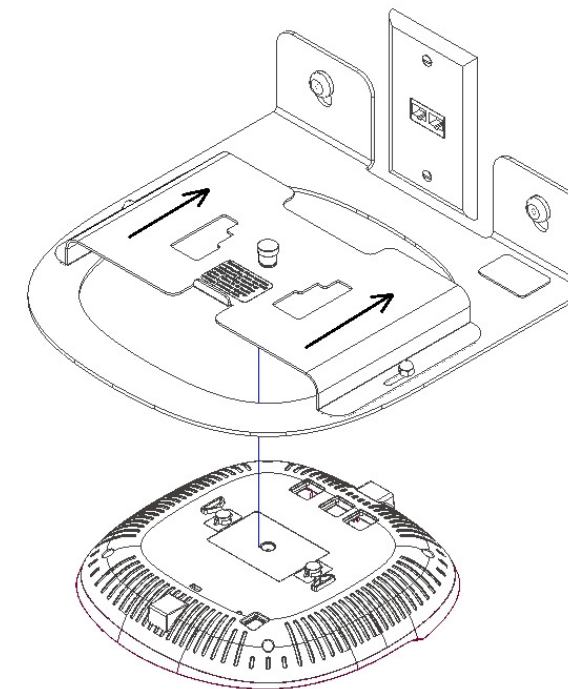

Figure 2
Step 5- After the mounting plate has been pushed towards the wall, use one hand to lift the AP305 access point into the opening with the Ethernet connectors facing towards the wall (Ref figure 2).